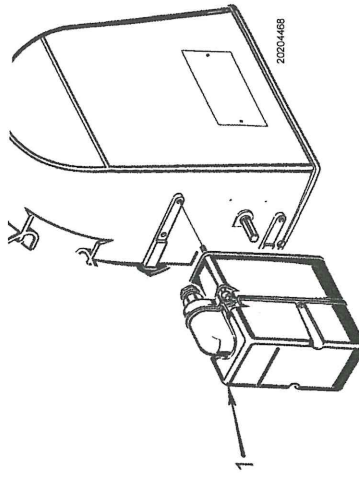

Fig. 1
- ▶ disassemble mechanically the servomotor (1) by removing the screws (Fig. 1).